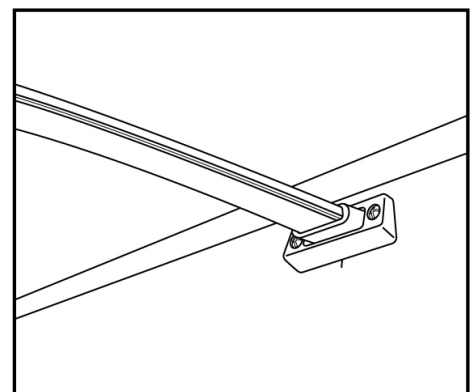

Fig.30
4. Loosen the knob on the rubber tip end of the arm and push the Awnbrella arm up against the fabric. Slip the rubber tip end of the arm into the hanger block mounted on the RV (Fig.30). The harder the Awnbrella arm is pushed against the fabric, the more tension will be applied to the awning.